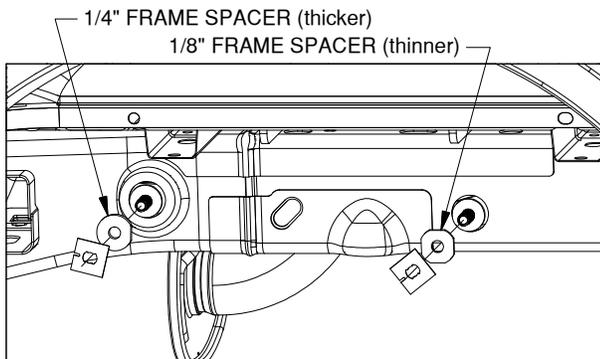

Figure C3: View of driver side wheel well.
- 2. Install frame spacers.** Install a frame spacer into each hole. The 1/8" (thinner) frame spacer will install in the rear hole in the frame and the 1/4" (thicker) frame spacer will install in the forward hole. To prevent the carriage bolts from falling into the frame. Thread a 1/2" retainer onto each bolt until it is snug against the frame, see Figure C3. Repeat steps 1 & 2 on the other side of the truck.